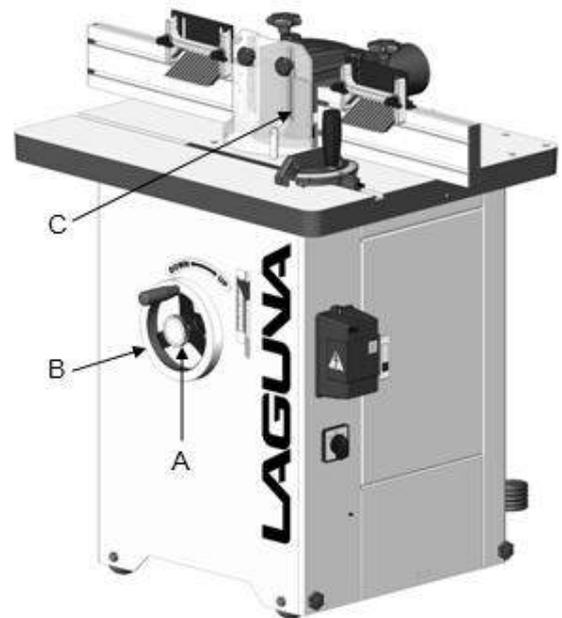

Fig. 5
The chart in Fig. 5 shows the correct size cord to use based on cord length and motor plate amp rating. If in doubt, use the next heavier gauge. The smaller the gauge number, the heavier the cord.
1. Loosen the lock knob A (Fig. 5)